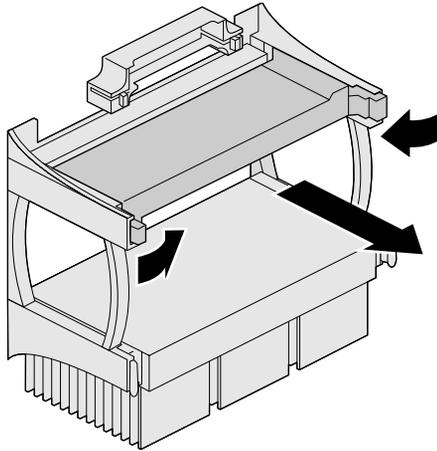

Figure 6-1 Removing the Processor Terminator Card
5. If you are installing a secondary processor, remove the processor terminator card from the secondary processor slot, as shown in Figure 6-1. Push the latches on the outside edges of the terminator inward and pull the terminator out of the slot.